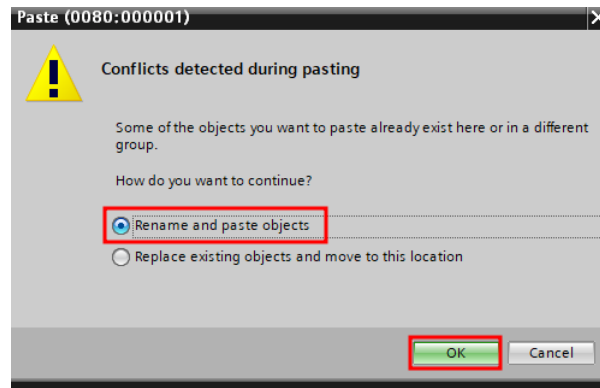

Figure 24: Paste Warning When Adding More Than One ISC CAM PLC Tags to a Project
62. When adding more than one ISC_CAM PLC tags to a project. It is important to make the correct selection when prompted. When dragging the library file into the PLC tags project. A “Paste” window will open, make sure to select “Rename and paste objects” and press “OK,” Figure 24. This will rename all the tags automatically.